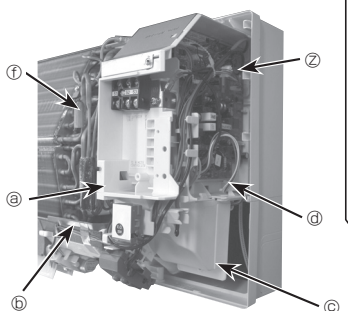
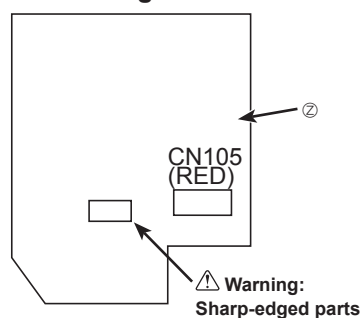

Fig. 6-5
Fig. 6-6
- ⑧ Remove the cable guide. (Fig. 6-5)
- ⑩ Remove the liquid pipe thermistor (TH2). (Fig. 6-5)
- ⑪ Tear off the tape partly of vane motor and loosen the cord. (Fig. 6-5)
- ⑫ Loosen the cord of the fan motor. (Fig. 6-5)
- ⑬ Pull out the electrical box toward you.
- ⑭ CN105 (RED) on indoor controller board. (Fig. 6-6)
- ⑮ Replace the removed parts.